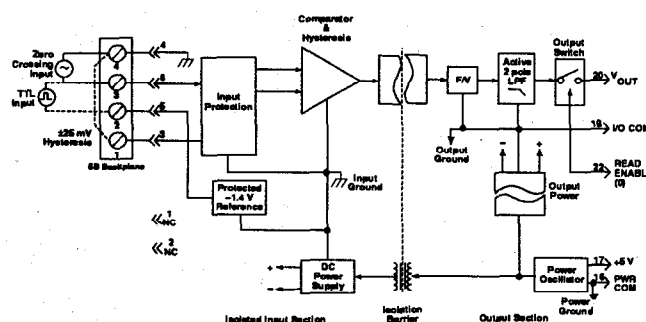

Figure 2.9 5B45 and 5B46 Functional Block Diagram
**Circuit Description:** Figure 2.9 shows a functional block diagram for models 5B45 and 5B46. Input protection of up to 240 Vrms is provided on the four input screw terminals. The input signal is compared to the selected threshold ( $V_T$ ) and hysteresis ( $V_H$ ). Signals of virtually any waveshape which exceed the combined threshold and hysteresis levels ( $V_T \pm V_H$ ), will trigger the comparator. The comparator's output frequency is transmitted across a proprietary isolation barrier and converted into a high level analog signal. The signal is then filtered by a two-pole low pass butterworth filter and buffered to provide a clean, low impedance output signal.
**Threshold Selection:** The threshold is determined by user wiring on the input backplane screw terminals. If the input signal is a zero crossing voltage input, the input signal should be connected to the backplane screw terminals 4 and 3 to implement a 0 V threshold. When the input signal is connected to screw terminals 3 and 2, the threshold is +1.4 V (see Figure 2.9).
**Hysteresis Selection:** Hysteresis is set at  $\pm 400$  mV for signals connected to either terminals 3 & 4 or 3 & 2. However, the user can change the hysteresis to  $\pm 25$  mV by the addition of a jumper between screw terminals 1 and 4. (see Figure 2.9)